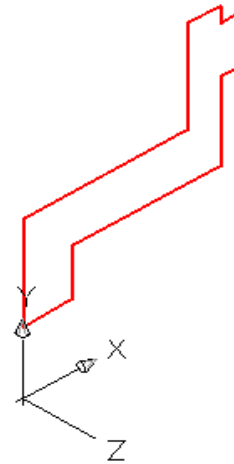

Figure Step 5
Step 5 Using the dimensions in the multiview drawing, draw the right side cross section of the solid part of the object as shown in Figure Step 5.